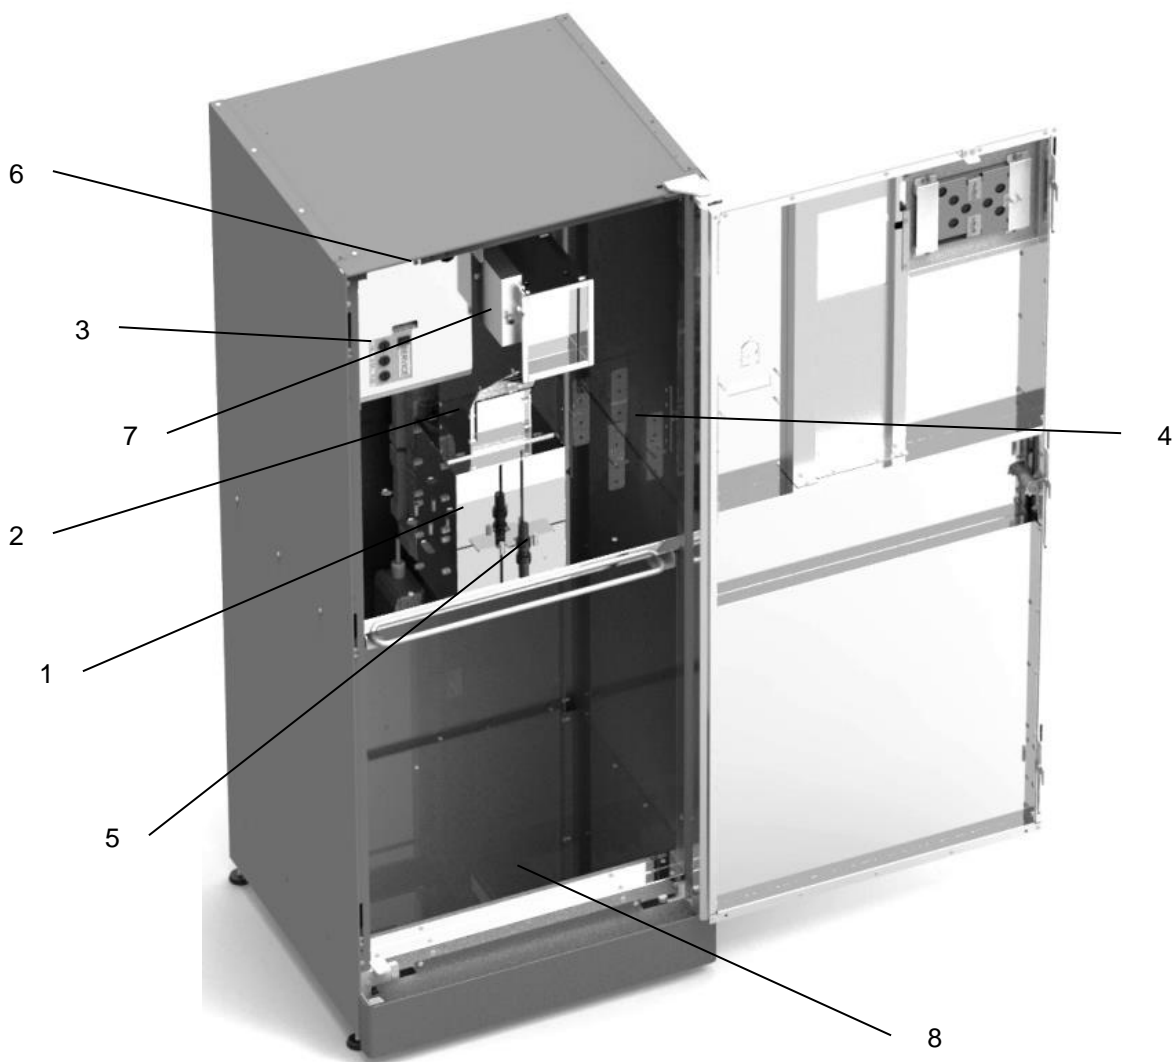

Fig. 4
3. Pull your hands out and the hatch closes; only after the hatch has fully closed will the rollers start running and begin the crushing phase. They continue running for a set amount of time after the hatch has closed (if the hatch ref. 4 is opened, e.g. pushed by hand or with another bottle/can, the rollers stop). After the time normally required for the item to fall onto the rollers and be crushed, the rollers continue turning for a few seconds to enable some degree of self-cleaning. After the rollers have stopped, the prompt to introduce materials appears on the display ref. 1 (see par. 8.2).
In fact, the printout normally refers to what is detected by the photocell, ref. 5 Figure 4, which can only distinguish the passage of bottles or cans if there is an adequate lapse between them.